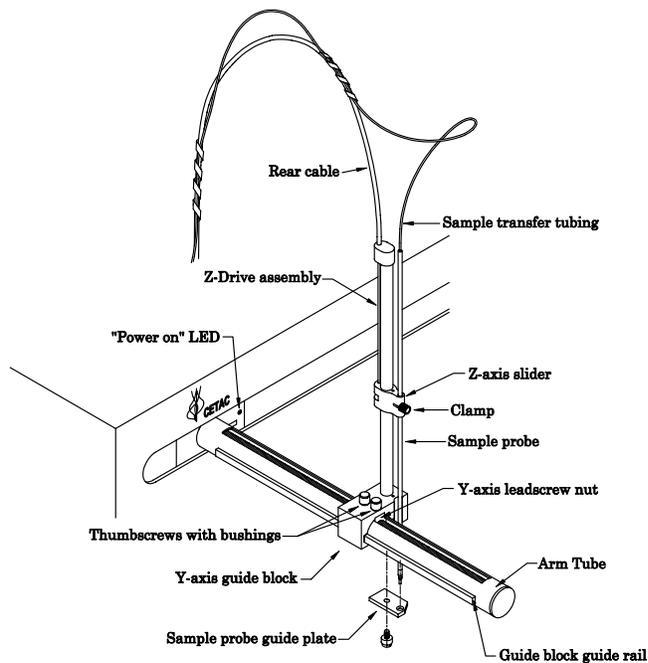

Figure 3-1. Z-Drive Assembly.
- 2** Install a clamp in the slot on the Z-axis slider. (Figure 3-1)
- 3** Install the sample probe through the Z-axis slider and then through the clamp. (Figure 3-1)
- 6** Verify that the probe tip clears the top of the rinse station when the autosampler is in the home position (Figure 3-1) above the rinse station.
- 1 Adjust the Z-axis slider (with attached sample probe) so that the slider is approximately 3-millimeters below the top of Z-axis drive. (Figure 3-1)